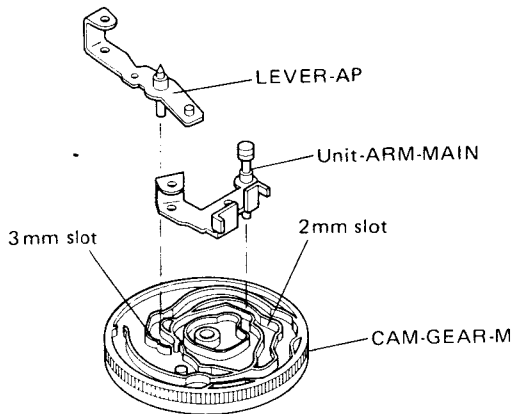
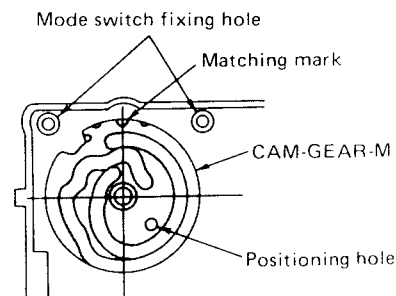

Fig. 4-4
Fig. 4-7
- 1) Set the gears so the positioning bore holes both for CAM-GEAR-M and main plate line up with each other (Refer to Fig. 4-7), confirm that the UNIT-ARM-MAIN pin on the front side of deck fits in the 2 mm slot of CAM-GEAR-M, and the LEVER-AP pin shall be fits in the 3 mm slot (Refer to Fig. 4-4).
- 3) Set the CAM-GEAR-M so the positioning hole in the gear lines up with the positioning hole in the main plate, as shown in Fig. 4-7.